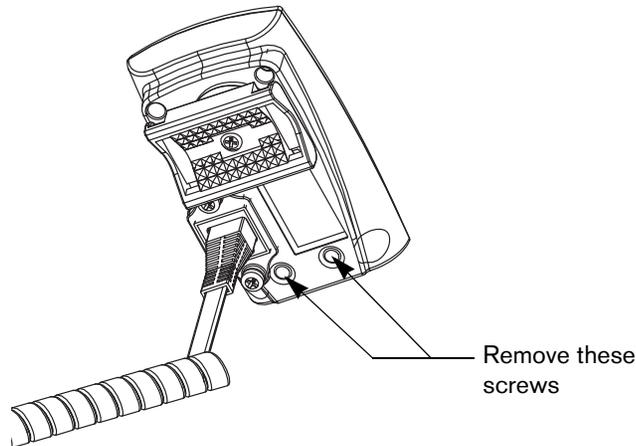

Figure 9: Location of screws securing headphone jack
2. Remove the two screws at the bottom of the controller with a Phillips-head screwdriver. Refer to Figure 9.